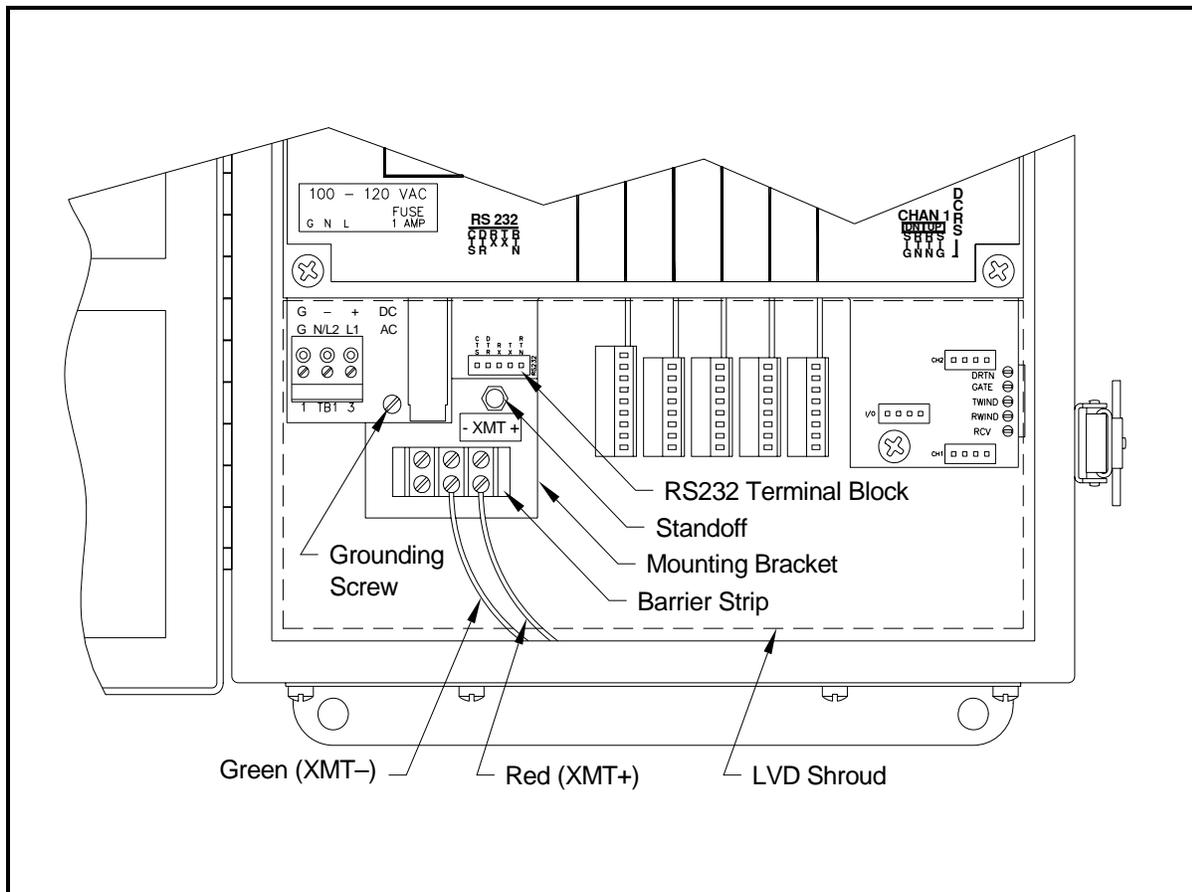

Figure 6-1: Interface Converter Mounting
A special bracket containing the serial interface converter and a three-terminal barrier strip is mounted inside the Model GC868, just below the RS232 terminal block (see Figure 6-1 below). The standard RS232 terminal block is wired to the input of the serial interface converter, and the RS485 output of the serial interface converter is wired to the barrier strip.
Standard factory wiring of the RS485 serial interface is configured for point-to-point wiring. That is, a single Model GC868 may be wired directly to a single personal computer. To connect the RS485 serial interface, refer to Figure 6-1 on page 6-4 and complete the following steps:
3. Remove the serial interface converter *mounting bracket* by removing the standoff located just below the RS232 terminal block and the grounding screw to its left (see Figure 6-1 on page 6-4).